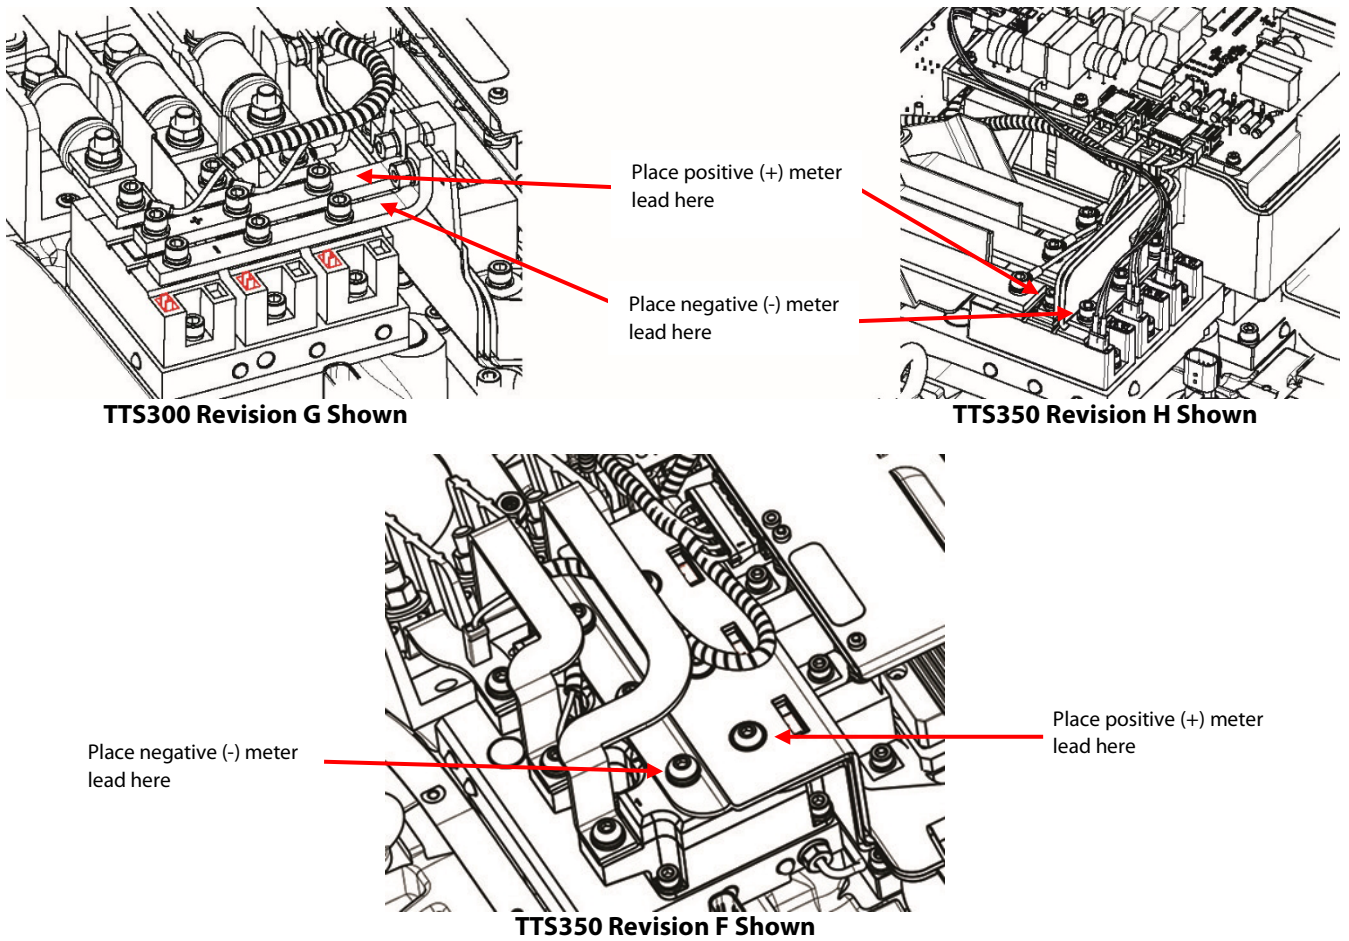

Figure 1 - DC Bus Voltage Test Points
7. Using an appropriately-rated voltage meter, check the DC Bus Bars for DC voltage level. If the voltage is above 30 volts direct current (VDC), wait five (5) minutes and recheck until voltage is below 30 VDC. Refer to Figure 1 - DC Bus Voltage Test Points.